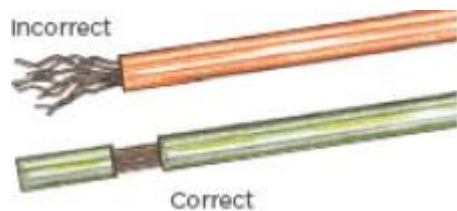

Figure 152
11. If broken or dented strands of wire are found cut and strip the wire again. Figure 152